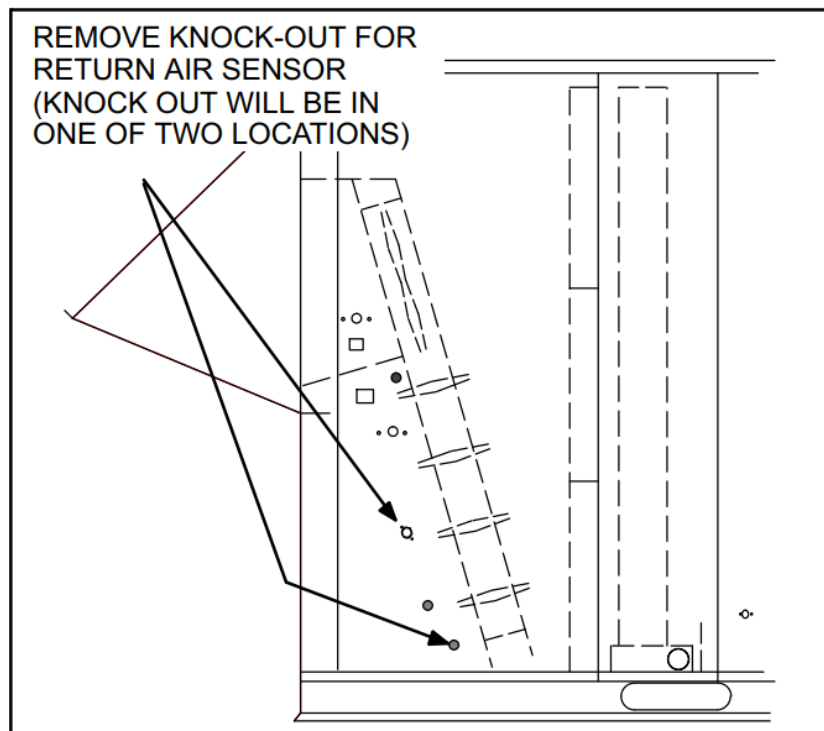

Figure 7. Unit Filter Section
1. Open the unit filter section and remove the knock-out labeled "A2". See figure 7.